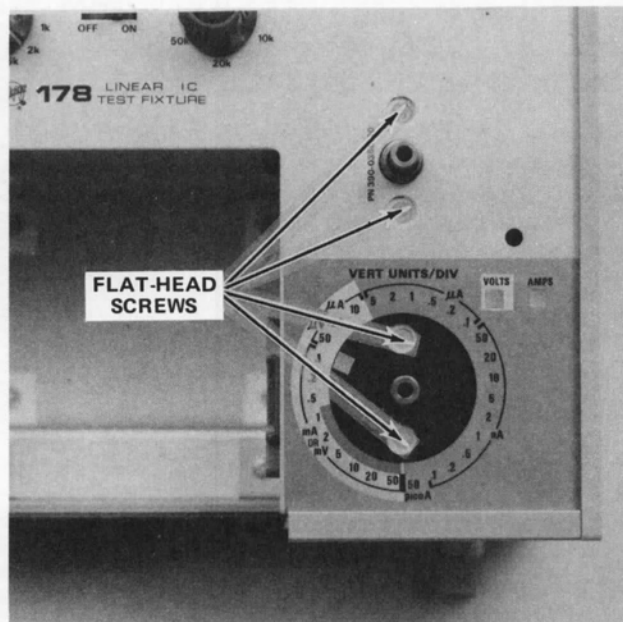

Fig. 4-7. Location of the flat-head machine screws under FUNCTION and VERT UNITS/DIV switches.
- f. Remove the four flat-head screws (visible through the front-panel openings, see Fig. 4-7) at the VERT UNITS/DIV and FUNCTION switches.